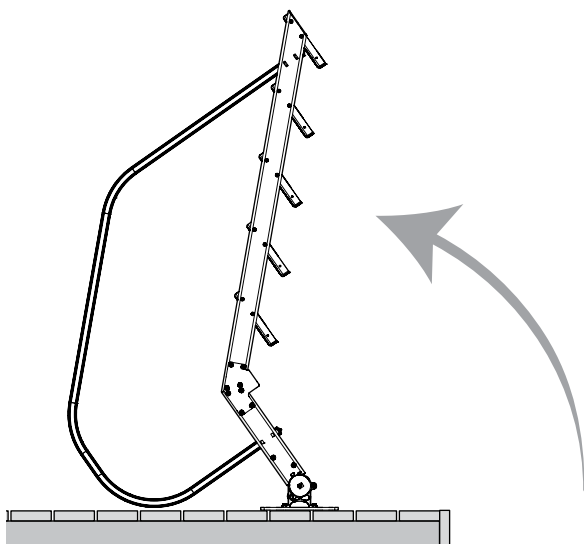

Fig. 8-3
- While one worker holds the hand rail in place, the second worker raises the Nauti Steps out of the water (see Figure 8-3).